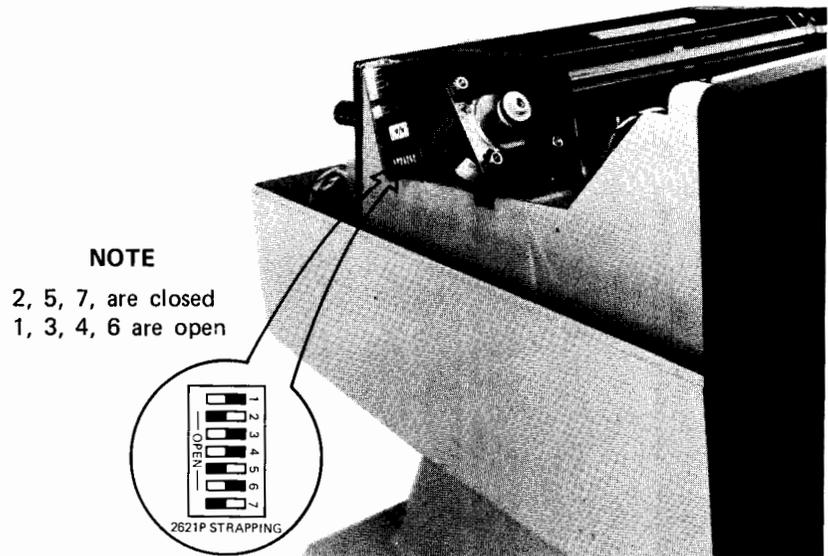

Figure 3-3. TPM Configuration and Location
To Change the TPM Strapping. In addition to the soft strapping performed at the Keyboard, the 2621P requires checking the TPM PCA strapping configuration only after replacing the PCA, because TPM strapping is configured at the factory before it is shipped. Figure 3-3 shows the location of the TPM strapping switch and its configuration for the 2621P (TPM PCA part no. 02670-60001).
2. Locate TPM strapping switch and check or restrap switch as shown in figure 3-3.